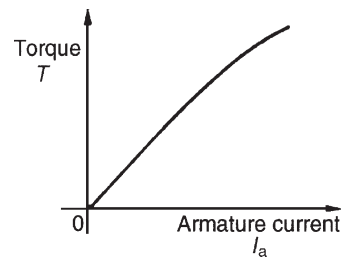

Figure 22.17
- (i) The theoretical torque/armature current characteristic can be derived from the expression $T \propto \Phi I_a$ (see Section 22.11). For a shunt-wound motor, the field winding is connected in parallel with the armature circuit and thus the applied voltage gives a constant field current, i.e. a shunt-wound motor is a constant flux machine. Since Φ is constant, it follows that $T \propto I_a$, and the characteristic is as shown in Fig. 22.17.